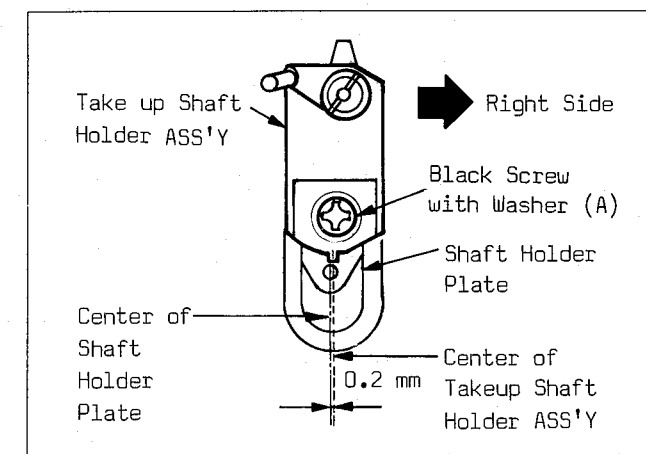

Fig. M6
3. Check to see if the Takeup Shaft Holder ASS'Y is properly set in a position just less than or equal to 0.2mm as measured from the right side to the center of the Shaft Holder Plate as shown in Fig. M6. If required, adjust the Takeup Shaft Holder ASS'Y position by loosening Black Screw with Washer (A).